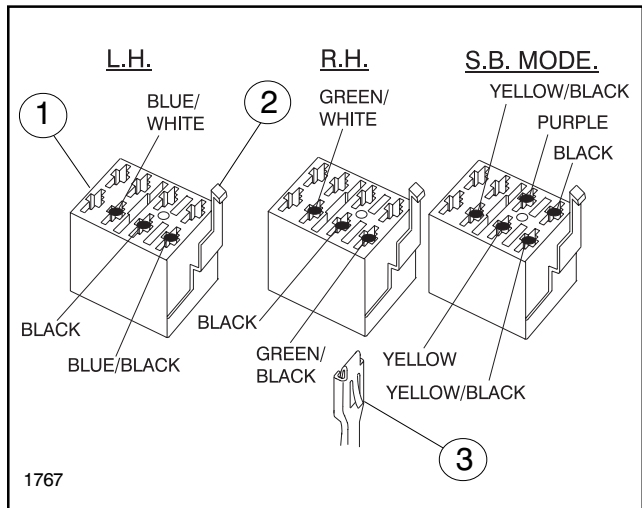

FIG. 5
d. Install the terminals/wires into the sockets of the new Connector Housings, provided, as shown in FIG. 5. Places all the wires from each group into a single Connector Housing. Orient the terminals as shown in FIG. 5, with the Tangs facing in the direction of the Locking Arm. Firmly press the terminals into the sockets.